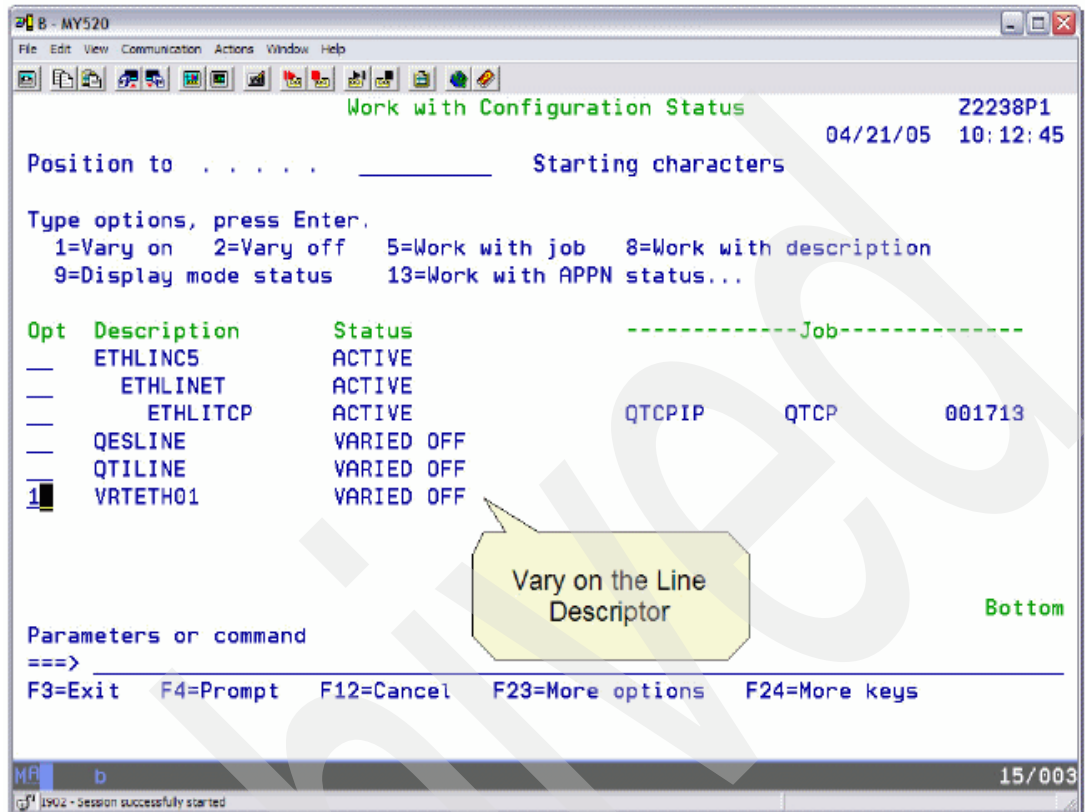

Figure 13-22 Work with Configuration Status
- Once the Ethernet line descriptor is created, it needs to be varied on. You can accomplish this with the Work with Line Descriptors (**WRKLNDD**) command as seen in Figure 13-22.